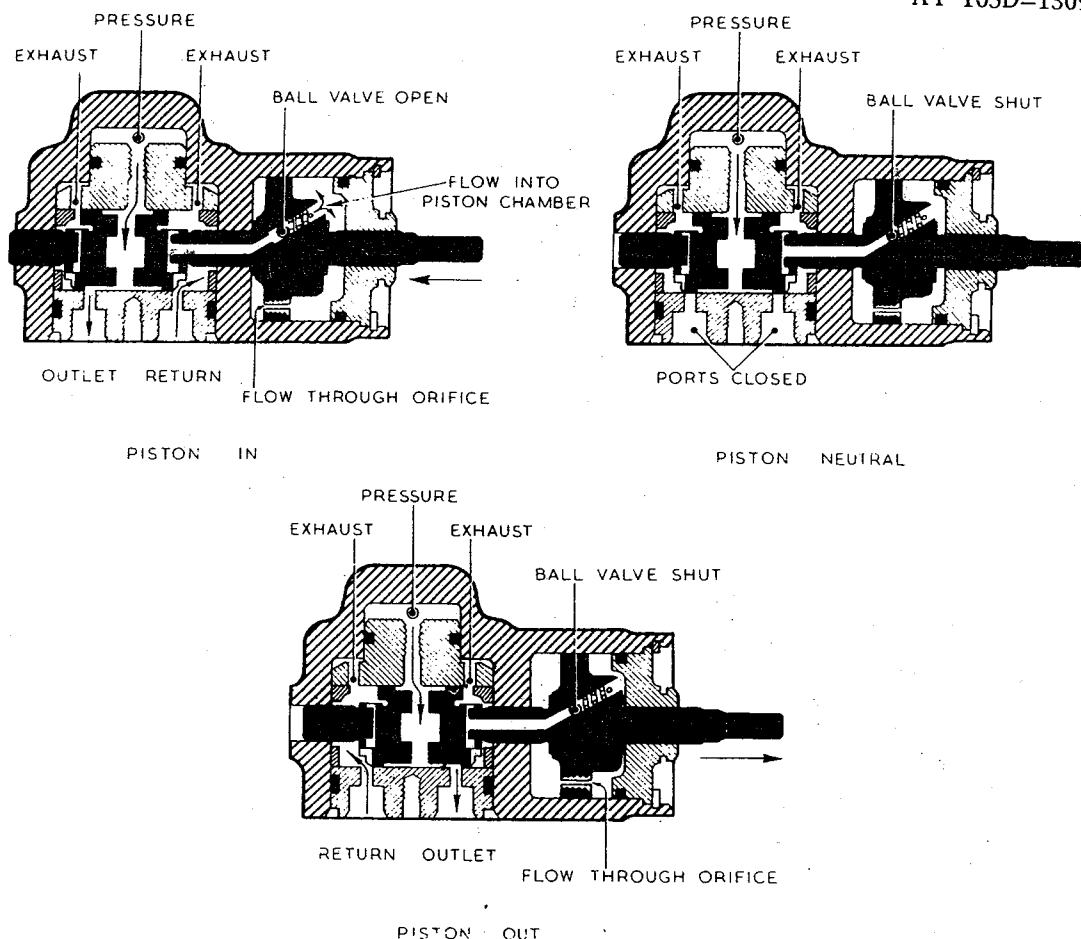

Fig. 3 Principle of operation
8. The principle of operation is illustrated in figure 3. Movement of the piston spindle is transmitted by the operating ring to the inner and outer sleeve assembly. When the piston is